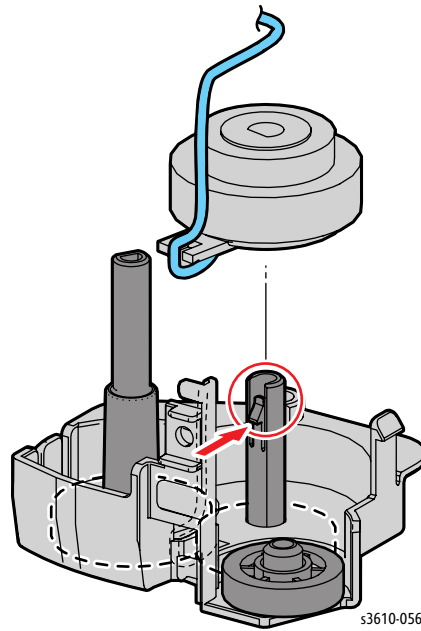

Figure 3
5. Remove the invert clutch by releasing 1 clip on gear E5. (Figure 3)